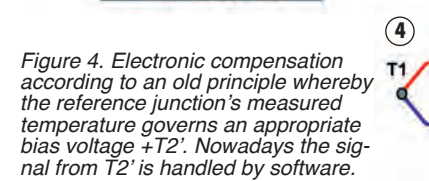

Figure 3. Locking of the reference junction's temperature at 0 degrees in an ice water bath ( $T_2 = 0$ ).
1. The connection points A/Cu and B/Cu are placed in e.g. an ice water bath.  $T_2$  is then locked at  $0^\circ C$ . See Figure 3.